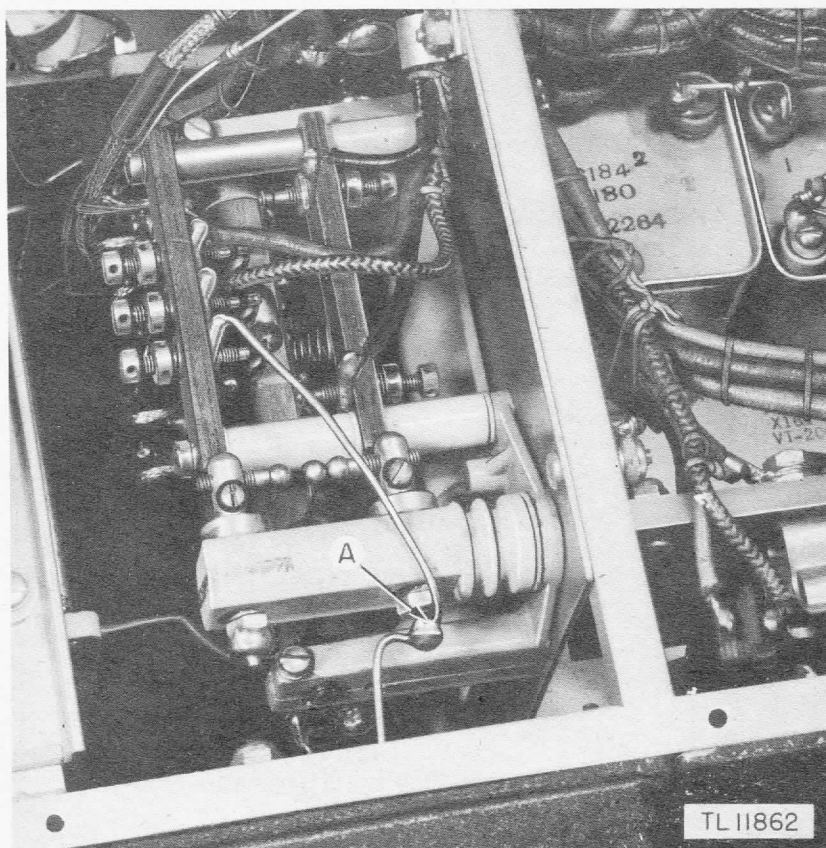

Figure 15. Radio Set SCR-506-(&), antenna relay.
a. Remove the top of Radio Set SCR-506-(&) to expose the keying relay. Unsolder and draw away the wire connected to the terminal marked A on figure 15.